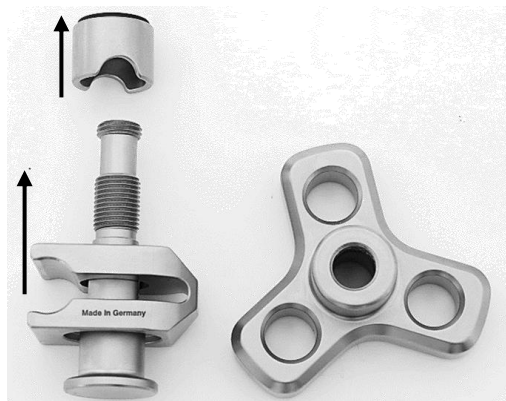

Fig. 19
First, pull the clamping sleeve (2) off the threaded rod (4), then remove the clamping piece (3) (Fig. 19).